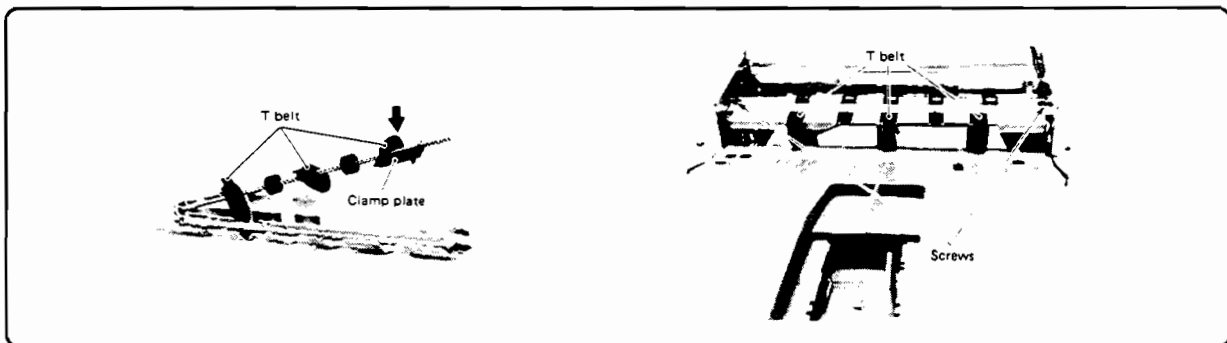

Figure 6-130. Delivery Rollers Removal
3. Remove the mounting screws (two); then remove the delivery roller/belt unit (Figure 6-130).
5. While lifting the delivery roller/belt shaft, apply pressure to the delivery roller clamp plates in the direction indicated in Figure 6-130. This removes them from the delivery roller/belt shaft. (Tractor belt tension is released when the clamp plates are removed from the shaft.)